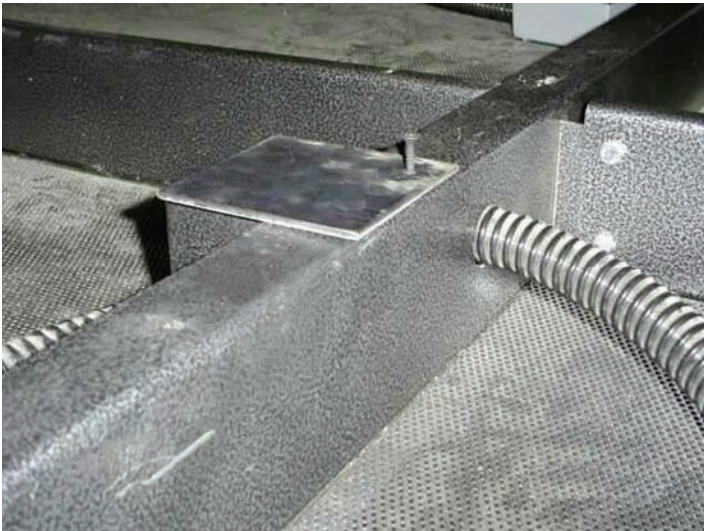

Figure 38
14. Arrange all cables inside the metal post (Figure 38).